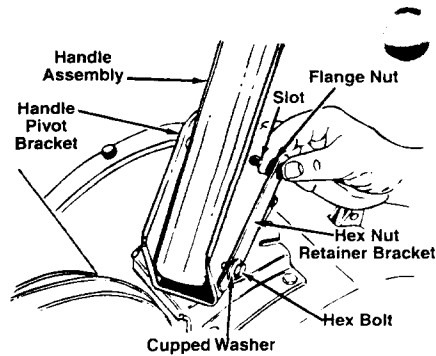

FIGURE 2
2. Place handle assembly in position in the handle pivot bracket. Line up the holes in handle assembly with the holes (and slots) in the pivot bracket. See figure 2.
3. Insert hex bolt (with washer and hex nut retainer attached) through the bottom holes on the handle pivot bracket and handle assembly. Head of the hex bolt should be to the left hand side of the unit. See figure 2.
Place flange nut between hex nut retainer bracket and pivot bracket. See figure 2.